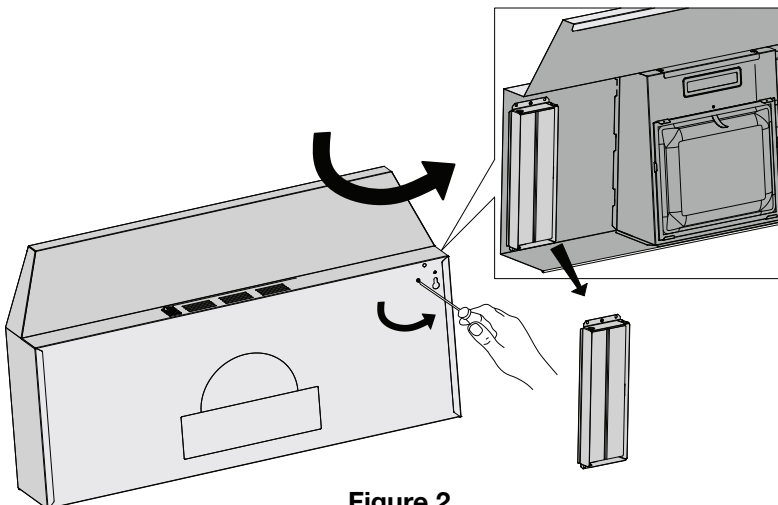

Figure 2
- Unscrew the rectangular damper located underneath the hood, by removing top screws (see Figure 2).